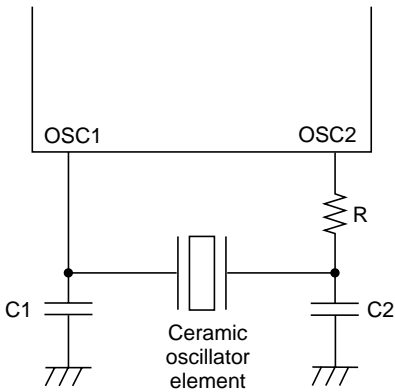

Figure 3 Ceramic Oscillator Circuit
- Notes: 1. Voltages up to the generated oscillation amplitude are allowed with internal drive using the oscillator circuit of figure 3 and the recommended circuit constants.